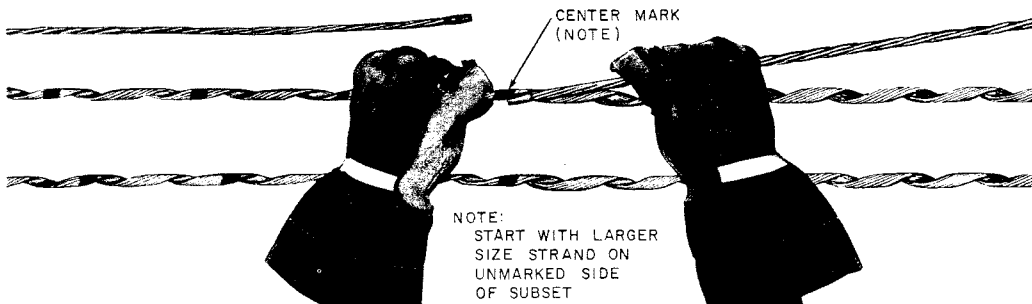
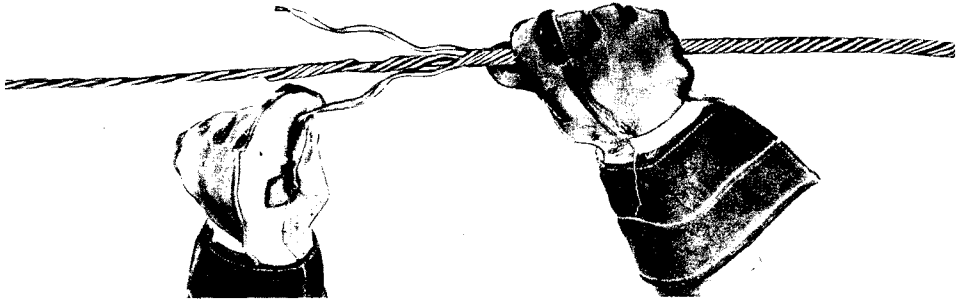

Fig. 2—Placing Larger Size Strand in First Subset
Fig. 3—Split Ends For Ease of Application
(1) Select the proper size B Strand Reducer from Table A.
(2) Starting at the center mark of the subset, apply the unmarked section of the subset on the larger size strand by rotating around and pulling slightly away from the strand as shown in Fig. 2. For ease in applying the end of the subset, split the ends and apply separately as shown in Fig. 3.